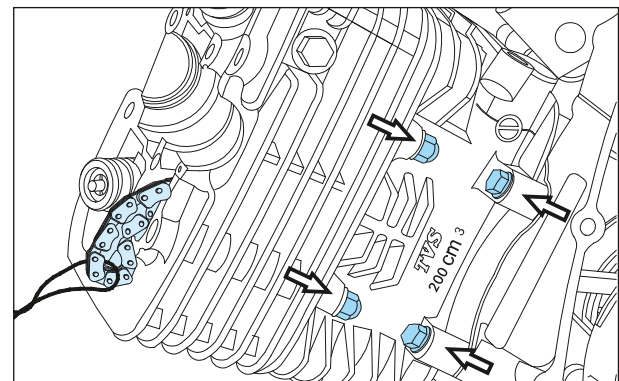

Fig. 3.153
- Tighten the hexagonal flange nut M6 , 2 nos. fitted to the cylinder head studs. (Fig. 3.153)
- Also, Tighten 2 nos. hexagonal flange bolt (M6x20) connecting cylinder block complete and the crank case assembly LH. (Fig. 3.153)